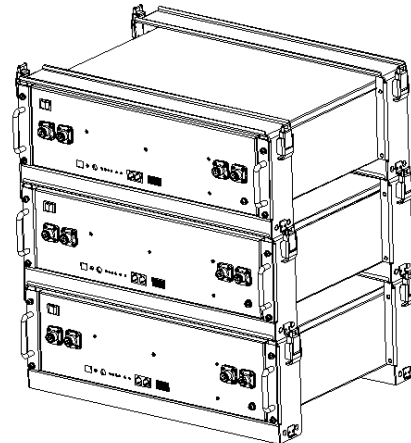

Figure3-6
3. Stack the fixed B3 and the bracket as shown in the figure 3-6, and fasten the buckle between the upper and lower sides.